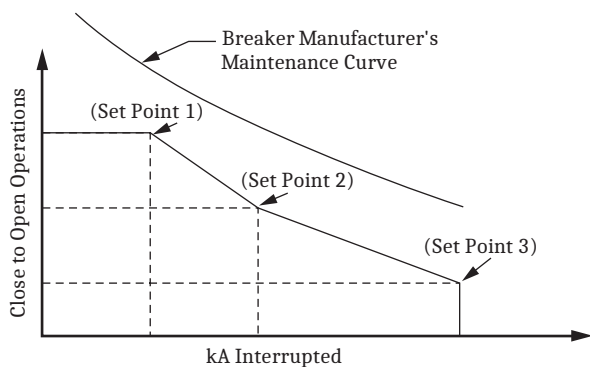

Figure 32 Breaker Contact Wear Curve and Settings
- Every time the breaker trips, the relay integrates interrupted current. When the result of this integration exceeds the threshold set by the breaker wear curve (*Figure 32*), the relay can alarm via an output contact or the optional front-panel display. With this information, you can schedule breaker maintenance in a timely, economical fashion.